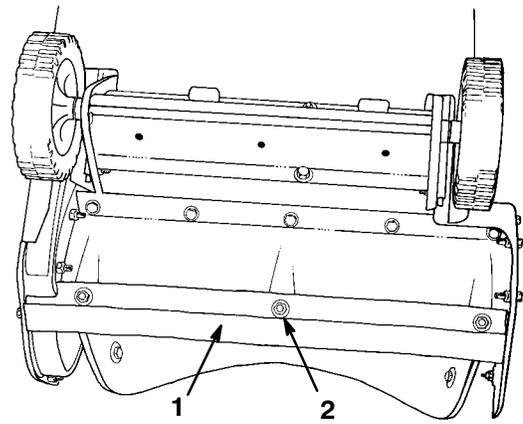

Figure 12
5. Remove the three carriage bolts and three flange nuts that secure the scraper in place, and remove the scraper (Fig. 12).